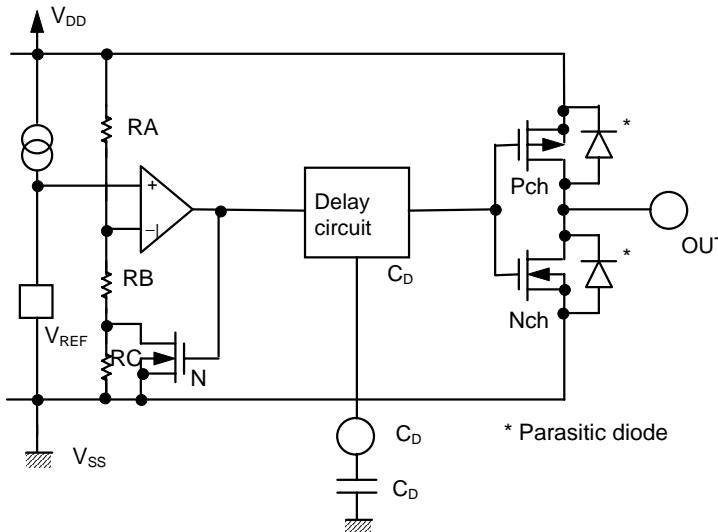
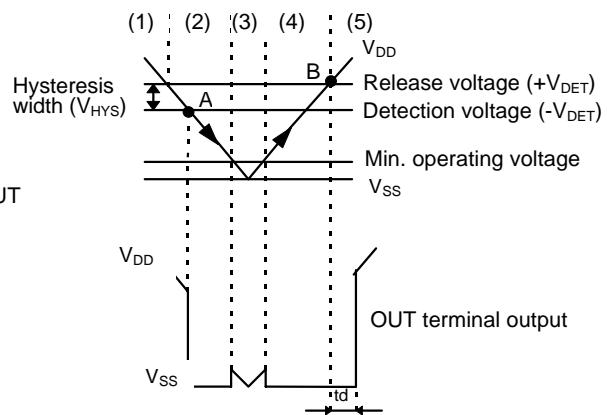

Figure 10
Figure 11
The hysteresis width is the voltage difference between the detection voltage and the release voltage ($B-A=V_{HYS}$ in Figure 11). By giving a device hysteresis, trouble such as noise at the input is avoided.
- (1) When power supply voltage V_{DD} is greater than the release voltage $+V_{DET}$, the Nch transistor is OFF and the Pch transistor ON, causing V_{DD} (high) to appear at the output. With the Nch transistor N1 of Figure 10 OFF, the comparator input voltage is $(RB+RC)/(RA+RB+RC \times V_{DD})$.
- (2) When power supply voltage V_{DD} goes below $+V_{DET}$, the output maintains the power supply voltage level, as long as V_{DD} remains above the detection voltage $-V_{DET}$. When V_{DD} does fall below $-V_{DET}$ (A in Figure 11), the Nch transistor goes ON, the Pch transistor goes OFF, and V_{SS} appears at the output. With the Nch transistor N1 of Figure 10 ON, the comparator input voltage is $RB/(RA+RB) \times V_{DD}$.
- (3) When V_{DD} falls below the minimum operating voltage, the output becomes undefined. However, output will revert to V_{DD} if a pull-up has been employed.
- (4) V_{SS} will again be output when V_{DD} rises above the minimum operating voltage. V_{SS} will continue to be output even when V_{DD} surpasses $-V_{DET}$, as long as it does not exceed the release voltage $+V_{DET}$.
- (5) When V_{DD} rises above $+V_{DET}$ (B in Figure 11), the Nch transistor goes OFF, the Pch transistor goes ON, and V_{DD} appears at the output. Then V_{DD} at the OUT terminal appears with delay time(td) due to delay circuit.
The delay circuit outputs the signal delayed from the release voltage ($+V_{DET}$) point of the power voltage V_{DD} rising. The output signal is not delayed when the V_{DD} goes down the detection voltage ($-V_{DET}$) or less. (See Figure 11). The delay time(td) is determined by the time constant of the built-in constant current (approx. 100nA in the case of products with detection voltage of 1.5V or more, approx. 570nA in the case of products with detection voltage of 1.4V or less) and the attached external capacitor (C_D), and calculated from the following formula.